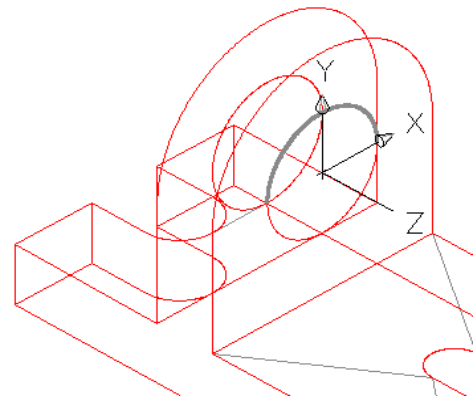

Figure Step 15
Step 15 On layer Construction, draw an arc on the top half of the circle as shown in Figure Step 15. Ensure you snap to the quads of the circle. To do that, you will have to locate the UCS on the same plane as the circle.